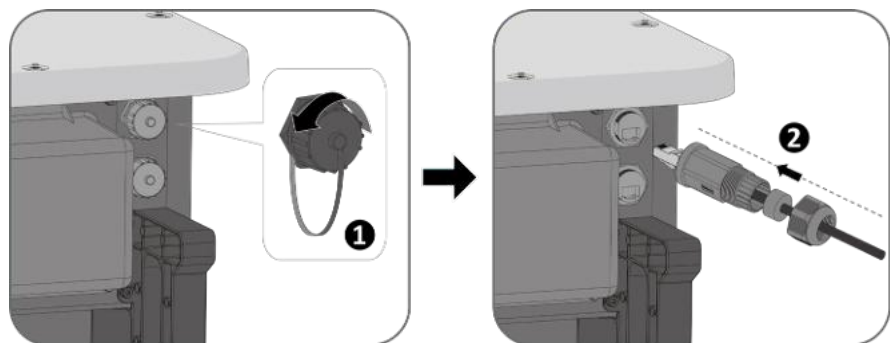

Fig. 49. Insert the network cable
2. Unscrew the cover cap of the communication port (see COM4 or COM5) (see Fig. 49, observe sequence and arrow directions) and insert the network cable into the attached RS485 communication client.